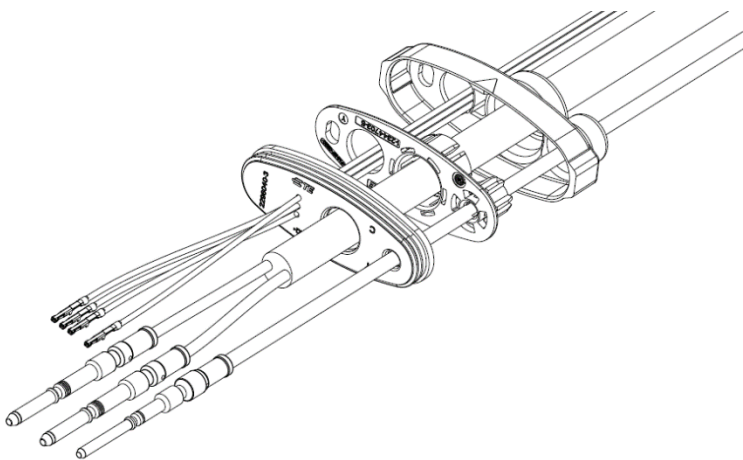

Figure 16 (schematic; crimp geometry not shown)
**After Crimping the subassembly of cables with cable exit components is in the condition shown in figure 16:**